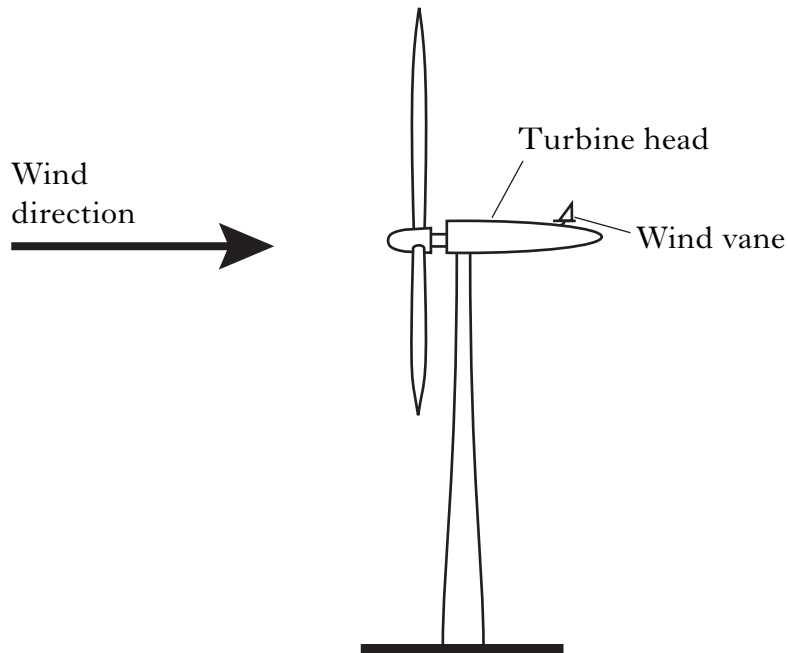

Figure Q7
7. An electronic control system keeps the wind turbine shown in Figure Q7 facing into the wind.